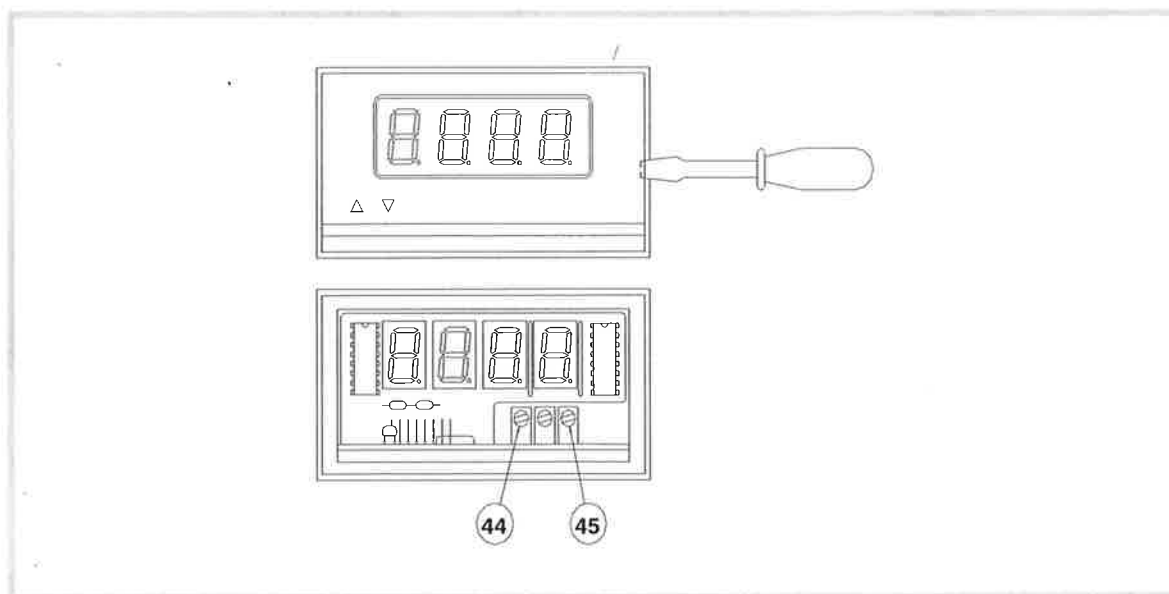

Fig. 26: Electronic display
- remove with a screw-driver the transparent plastic panel covering the instrument (Fig. 26);